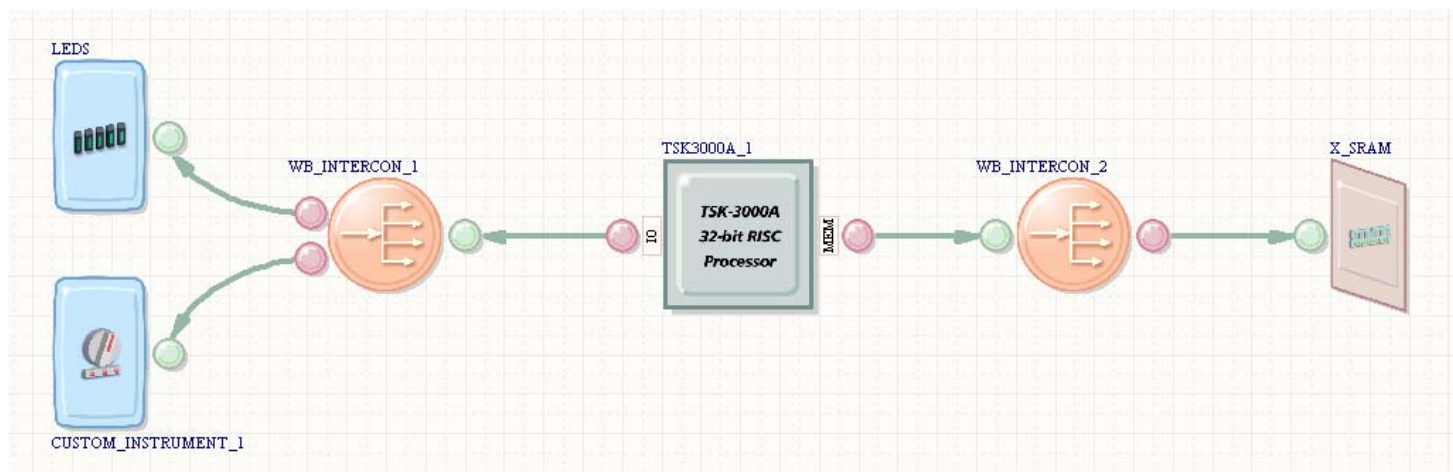

Figure 1. OpenBus document for the uP_KnightRider_wControl design.
This exercise uses the component listed in Table 1 to extend the OpenBus design originally created in Session 5, to give the OpenBus design shown in Figure 1. Note that the top schematic sheet remains the same.
5. To wire this component in, add an OpenBus **Port**  to the Interconnect on the IO side of the processor, then place a **Link**  between the new port and the new Custom Instrument. Arrange the OpenBus components as shown in Figure 1.